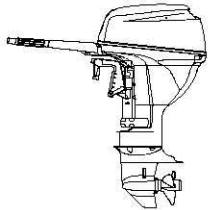
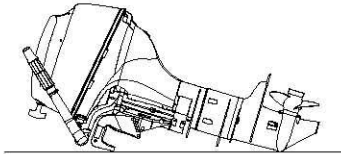

Figure 1
Figure 2
The outboard motor should be upright as shown in the following figure 1 when be in transit. If the engine must be laid down, please be sure to put it as shown in the following figure 2 or figure 3 when be in transit.
- Place a towel or something similar under the outboard motor to protect it from damage when as shown in the figure 2 or figure 3 above.